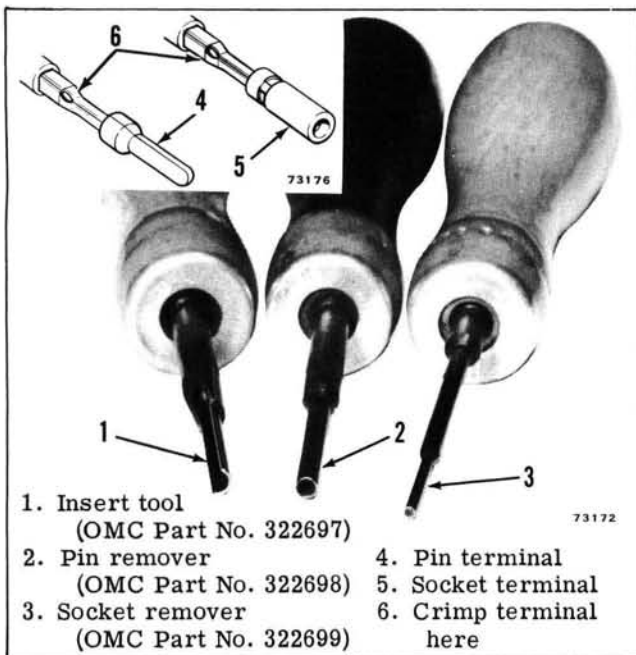

Figure 4-9. Tools for Connector Terminals
c. Select the proper removal tool for the terminal in the connector. See Figure 4-9.
e. Pin and socket terminals may be replaced if damaged. Crimp new terminals onto the wire using OMC Crimping Pliers (Special Tool No. 322696). See Figure 4-9 for crimping locations. If crimping pliers are not available the terminals can be installed onto the wire using needle nose pliers, and then must be soldered to the wire to insure good electrical contact and security. No soldering is required when using the OMC Crimping Pliers.